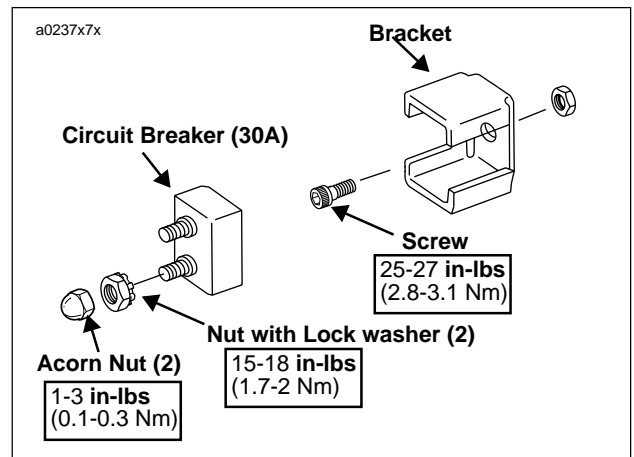

Figure 7-37. Circuit Breaker Installation
3. See Figure 7-37. Remove acorn nuts, nuts with lock washers and wire leads from circuit breaker studs. Tag wire leads for ease of assembly.